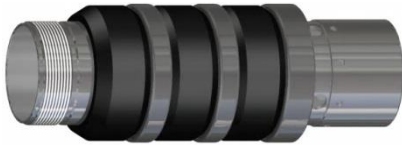

Fig. 3
L-14.1) Stand rubber mandrel (11) on end with threads facing upwards. Install rubber retainer (15), elements (13, 14), and rubber spacers (12) onto rubber mandrel (11) (Fig. 3).